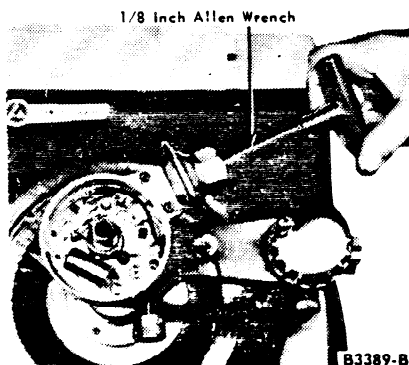

FIG. 7 Vacuum Advance Adjustment
4. If the advance is incorrect and adjustment is required, disconnect the vacuum line and insert a 1/8 inch socket head wrench in the end of the diaphragm (Figure 7). Turn the wrench clockwise to increase the vacuum advance or counterclockwise to decrease it. **Do not change the original rpm setting when going to a different vacuum setting.** If the other settings are not within limits, there is incorrect spring tension, leakage in the vacuum chamber and/or line.